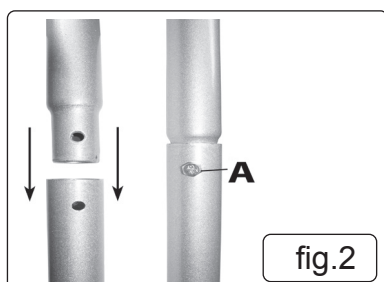
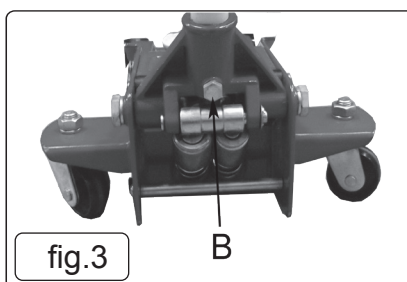

fig.2
fig.3
- 4.1. The jack comprises the following parts Steel chassis. Two-part pumping handle (fig.2) with M6x35 bolt (fig.3).
- 4.2. Insert the upper handle into the lower handle. See fig. 2.